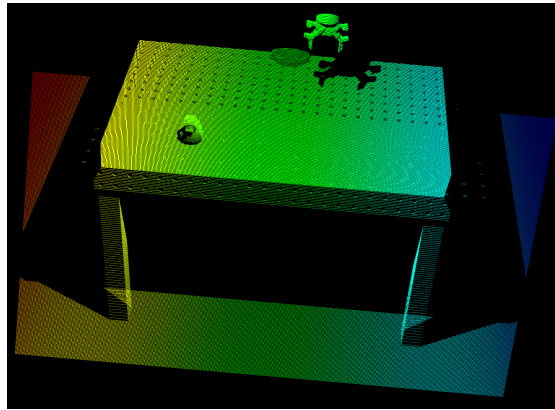

Figure 2 Sample pointcloud.
- We provide 280 different "pre-rendered" scene pointclouds and their corresponding ground truth. They are located in the Scenes folder. They can look like in Fig. 2. The file Scenes.pdf on ItsLearning will tell you which are relevant for you.